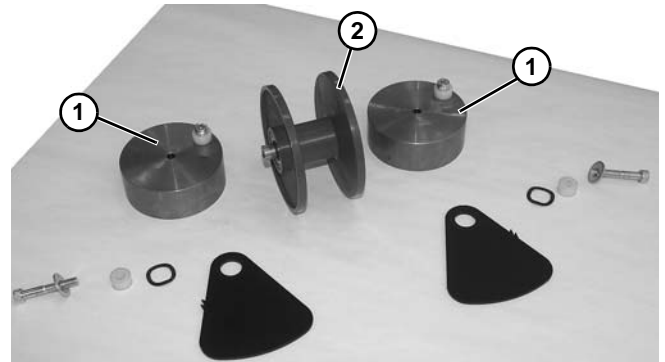

Figure 154
9. Remove weights (Figure 154, item 1) from each side of pulley (Figure 154, item 2).